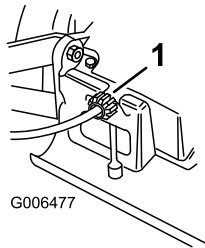

Figure 28
If the mower does not self-propel or has a tendency to creep forward when the blade control bar is **more** than 1-1/2 inches (3.8 cm) from the handle, adjust the wheel drive control knob on the rear of the gear box (Figure 28).
2. Rotate the control knob clockwise a half turn if the mower does not self-propel. If the mower creeps forward, rotate the knob a half turn counterclockwise to loosen the belt (Figure 28).